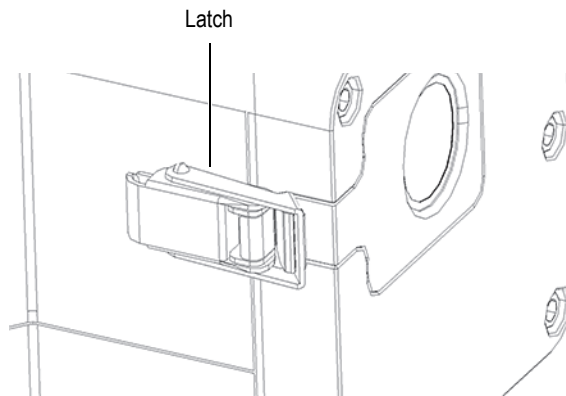

Figure 4-1 Window faceplate latch
2. Locate the window faceplate latch at the front of the instrument (Figure 4-1 on page 61).